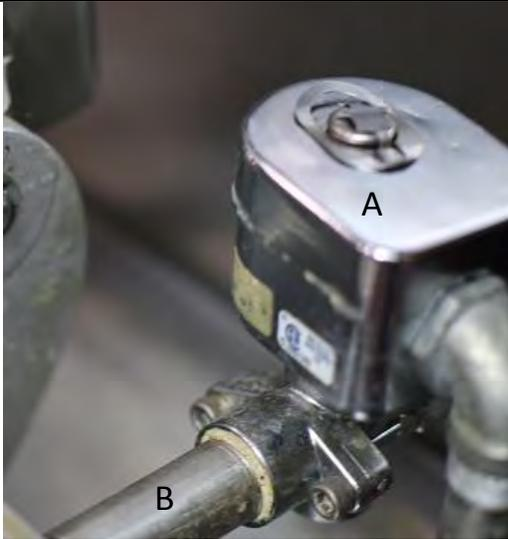

Figure 3.
1. Inspect and clean the plumbing from the outlet in the fry pot to the pressure solenoid (figure 3.)